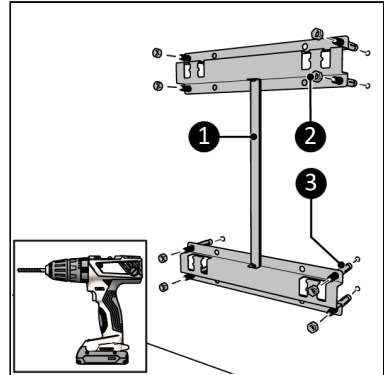

Figure 33.
3. Place anchor bolts (Figure 33, pos 3).
4. Tighten the wall bracket (Figure 33, pos. 1) to the wall with the eight nuts (Figure 33, pos. 2).